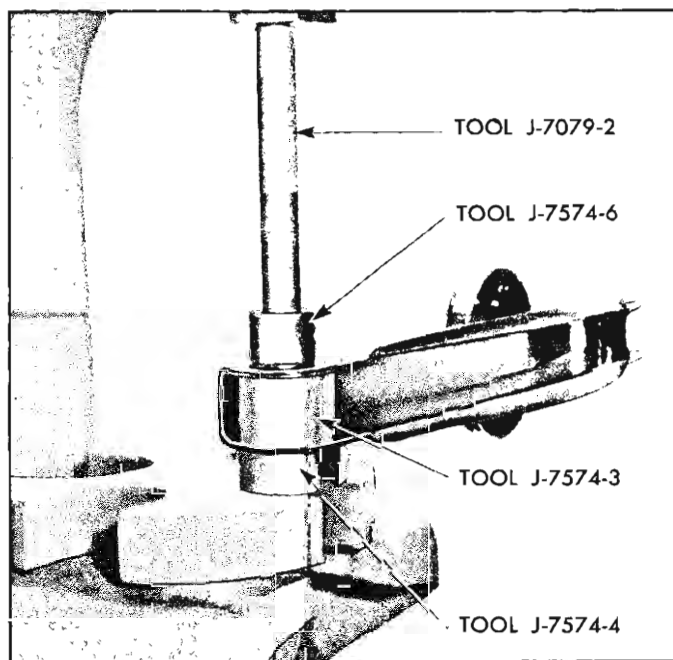

Fig. 31—Installing Lower Control Arm Front Bushing
6. Start bushing into hole and press or tap in place. Check to see that no interference or cocking takes place. The flange of the bushing must be seated against the arm (fig. 31).